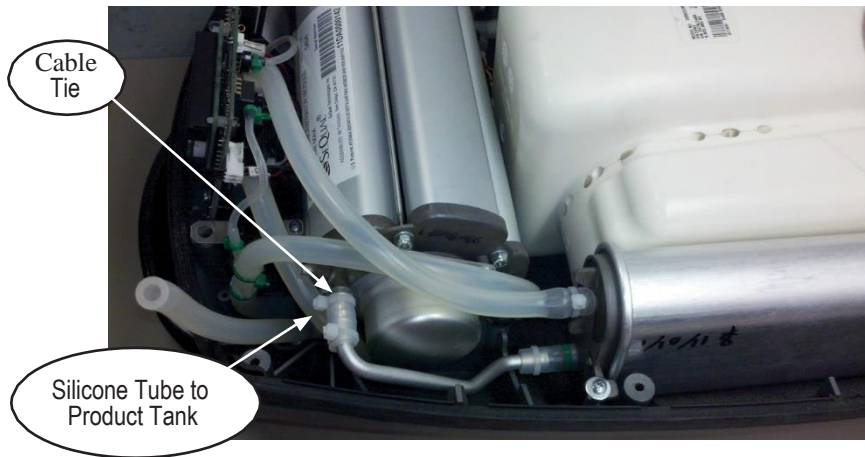

Figure 31: Removal of ATF Module Product Hose.
13. Connect the silicone tube from the Product Tank into the product port of the ATF and secure joints with cable ties as shown on Figure 31.